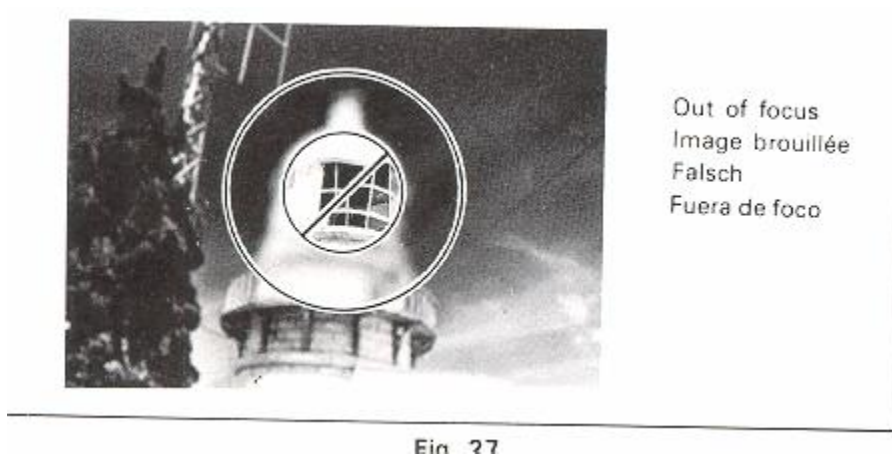

Fig. 27
1. Look into Viewfinder Eyepiece (30) to compose your picture.
Rotate Focusing Ring (21) until the split image in Split-image Spot (47) forms a single image. When it is out of focus, your subject is split into two parts (**Fig. 27**).
Rotate Focusing Ring (21) until the image in Microprism-image Band (46) appears sharp (**Fig. 27**).